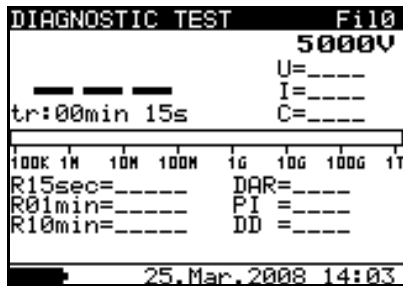
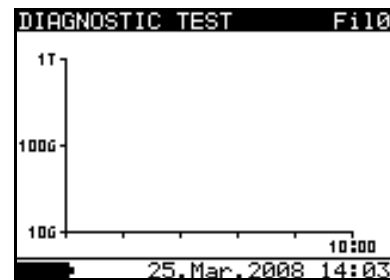

Fig. 25: Initial numerical screen
Fig. 26: Initial graphical screen
2. Select with arrow keys ▼ or ▲ the item “DIAGNOSTIC TEST” on main menu and confirm with **SELECT** key. The screen of Fig. 25 is shown by the meter. In case of activation of Graphic R(t) option press arrow keys ▼ or ▲ to select the graphical screen of Fig. 26